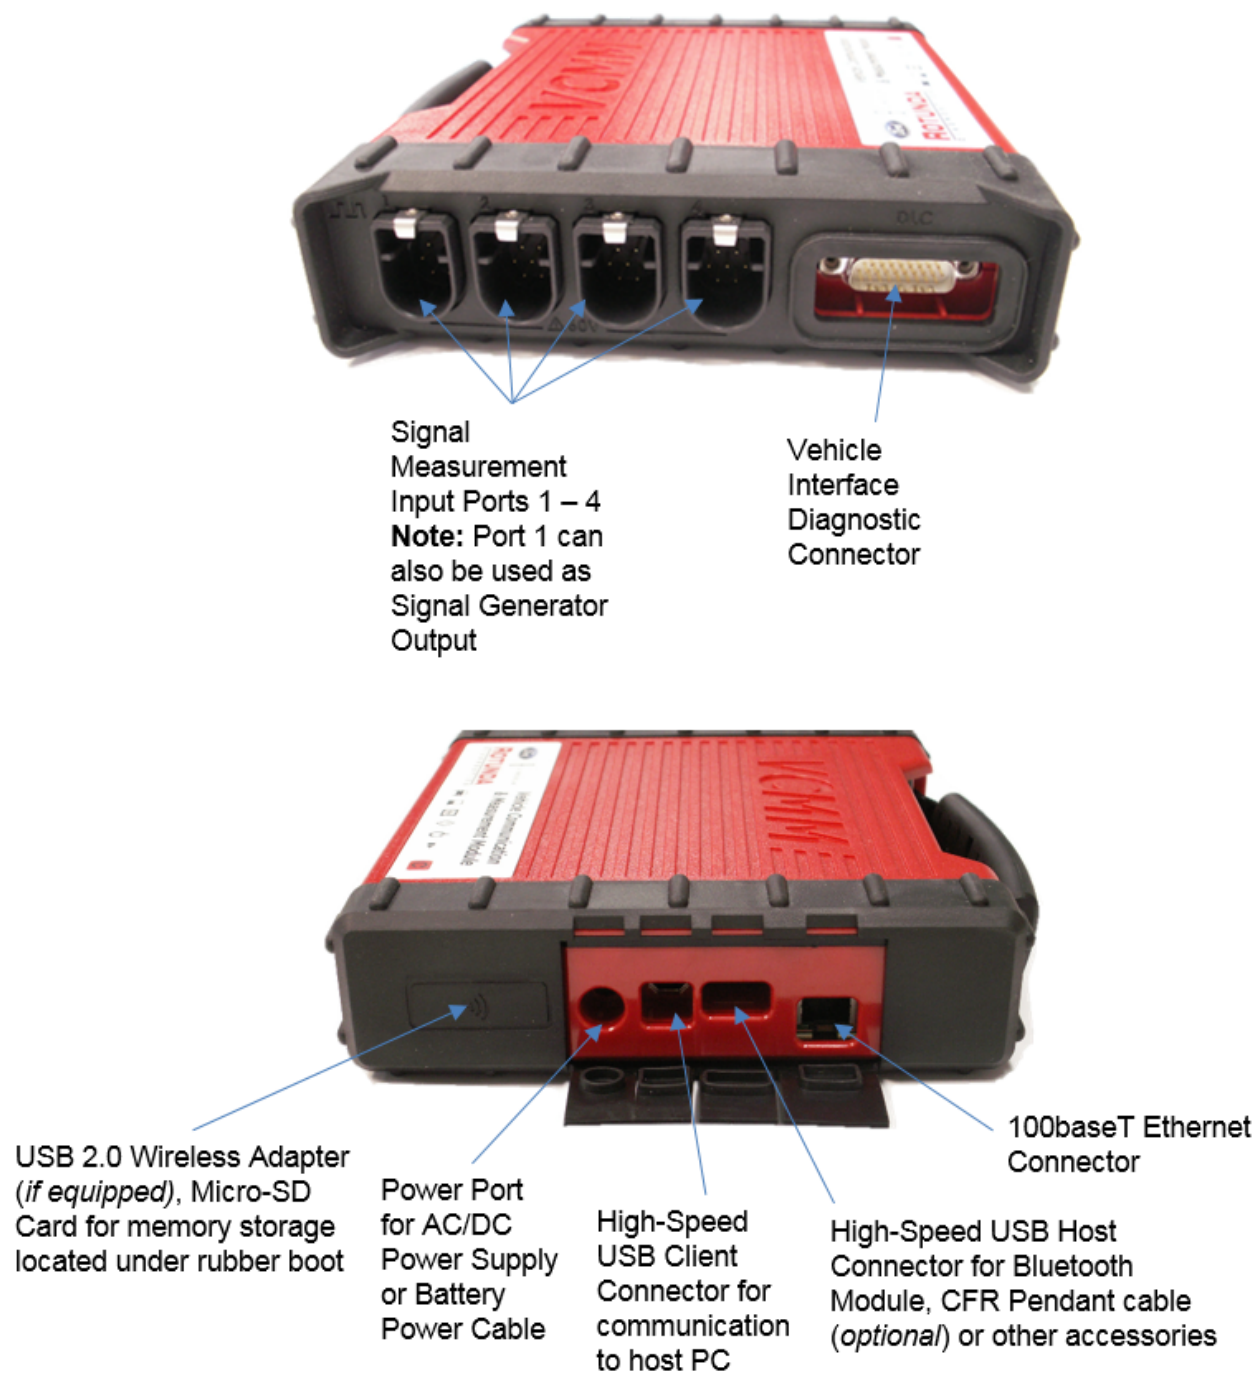

Figure 2
1. Use the DLC cable provided in the VCMM kit – Connect the 26-pin end to the VCMM Vehicle Interface Diagnostic Connector (see Fig. 2 and 3) and the 16-pin J1962 end to the vehicle.
2. Use the Battery Power Cable provided in the VCMM kit – Insert the DC power plug into the VCMM Power Port (see Fig. 2 and 3) and attach the battery clips to the vehicle battery.
3. Use the AC/DC Power Supply and AC cable provided in the VCMM kit – Connect the AC/DC Power Supply to the AC power cable. Use only a certified power cord having at least 18AWG/3G (3 x 0.75mm²) cable with power plug and connector rated 250V, 10A. This is provided with the external power supply having input voltage range of 100-240Vac, 47-63Hz, rated 0.5A. Connect the power cable to a 110V or 220V AC power source outlet that is equipped with a reliable protective earth (ground) connection. Insert the DC power plug into the VCMM Power Port (see Fig. 2 and 3).
Connect the VCMM to the PC using the USB cable provided in the VCMM kit. Connect the type B end of the USB cable to the VCMM High-Speed USB client connector (see Fig. 2 and 3). Connect the type A end of the USB cable to the PC USB port.